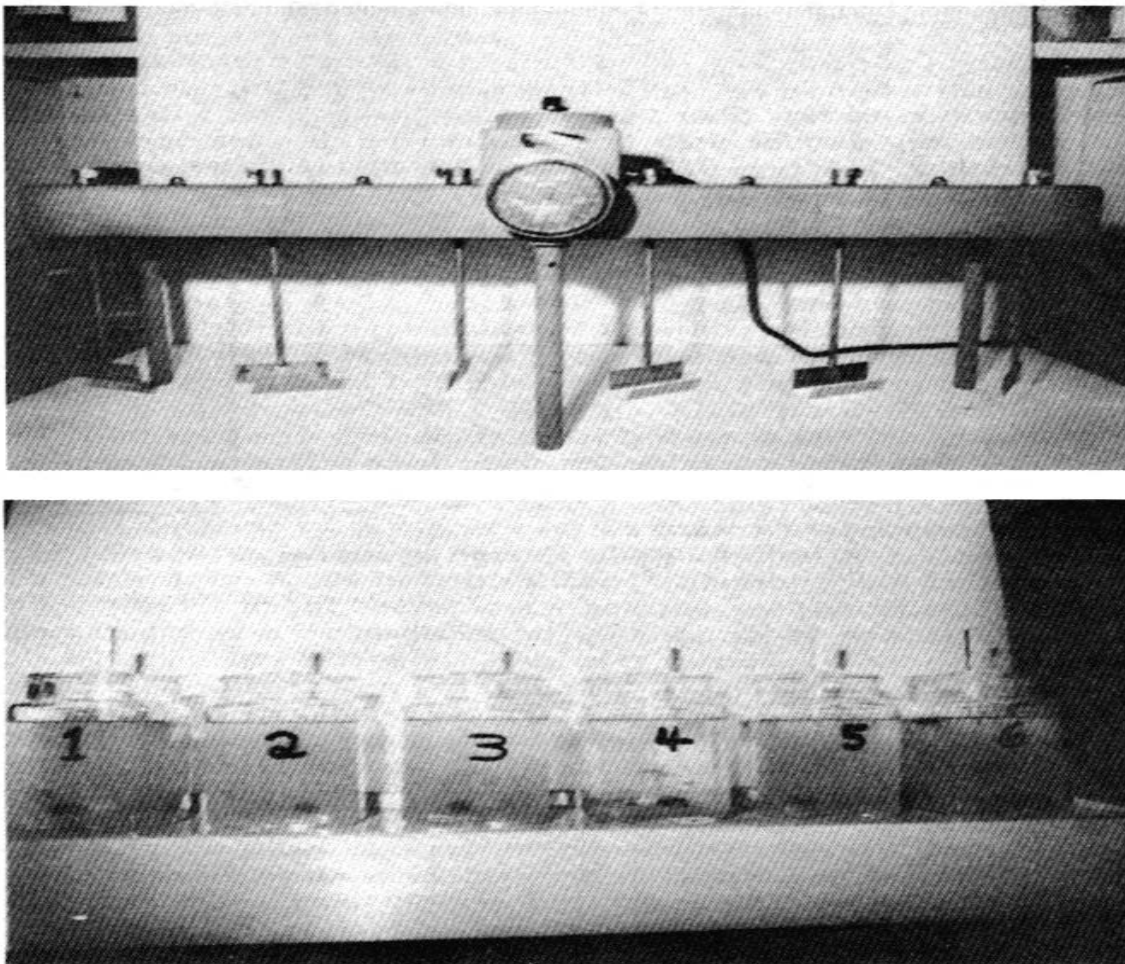

Figure 2.3 Jar Testing Equipment: Mechanical Stirrers and Magnetic Stirrers3
- ✓ Jar testing equipment consists of a gang of mixers (often six) used generally with beakers that serve as reactors (refer to Figure 2.3).